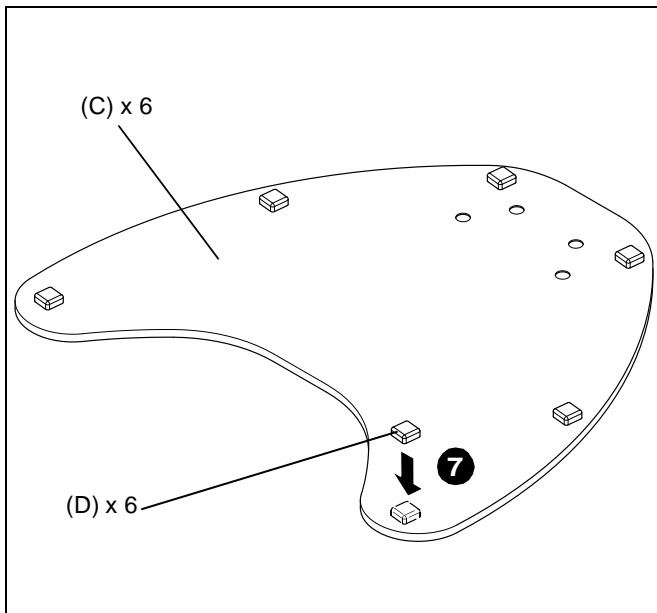

Figure 6
- Remove paper from adhesive back on six rubber bumpers (D). (See Figure 6)
- Secure six rubber bumpers (D) to bottom of base in locations shown below. (See Figure 6)